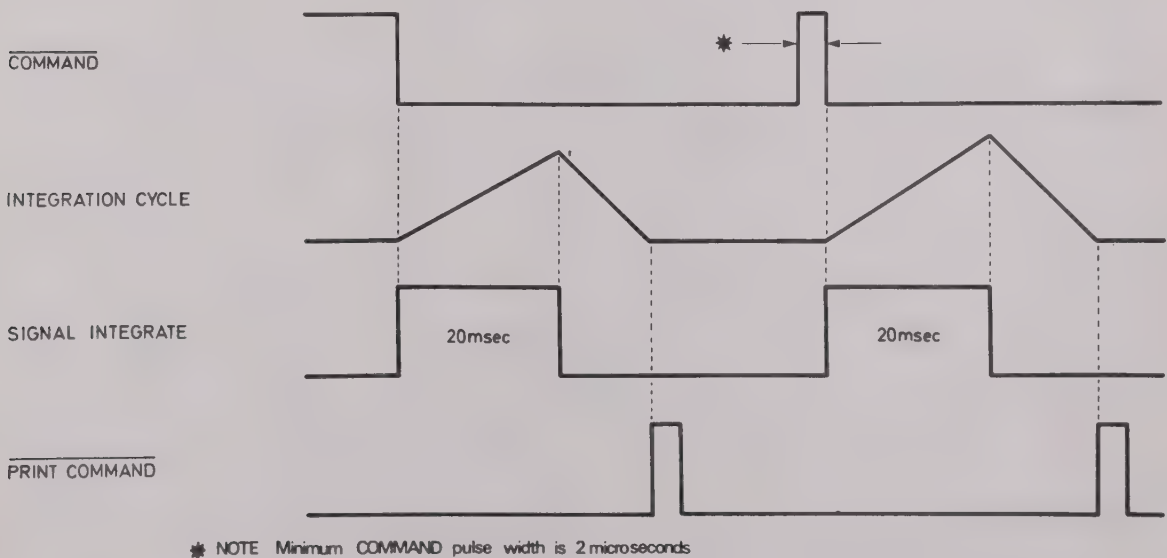

FIG. 4:1
4.1.4.4 Read Command. A falling edge on pin 41, COMMAND, instructs the instrument to take one reading immediately if, and only if, pin 40 HOLD is already held low. The instrument inhibits commands that are applied before conversion in progress is complete. Fig. 4:1 shows the relationship of COMMAND and PRINT COMMAND to the integration cycle.
Provided pin 44 is held low, this means that the instrument can be commanded at the same instant that new signal information is applied to the front panel terminals. A particularly useful example of this is where the Model 1059 is used in conjunction with a signal scanner, the same command being used for stepping or switching the scanner, as for commanding a reading to be taken, see Fig. 4:2.
For maximum read rate in a closed-loop system, the command could be the falling edge of pin 43, SIGNAL INTEGRATE, see Fig. 4:3.